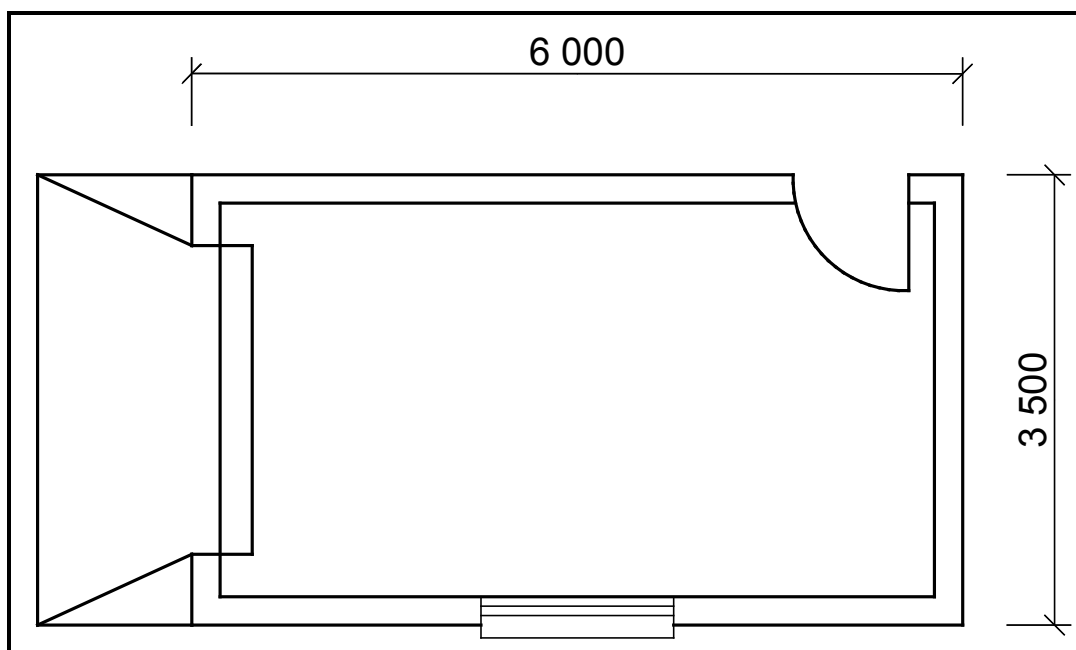

FIGURE 4.7
- 4.7 FIGURE 4.7 below shows the floor plan of a garage with a garage door, a side door and a window.